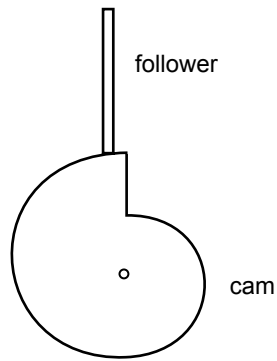

Figure 2
- a. Describe the principle of operation of the mechanical device in Figure 2.
- b. On Figure 2 above, use an arrow to show the correct direction of rotation of the cam.